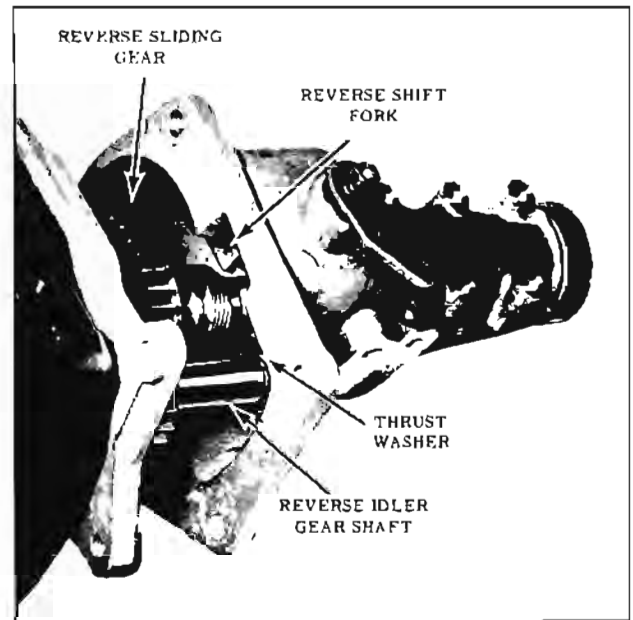

Fig. 11-217 Extension Housing Removal
8. Remove the five extension housing bolts, extension housing, and gasket. (Fig. 11-217)
9. Remove the rear reverse idler gear thrust washer (tanged) from the idler gear shaft. (Fig. 11-217)